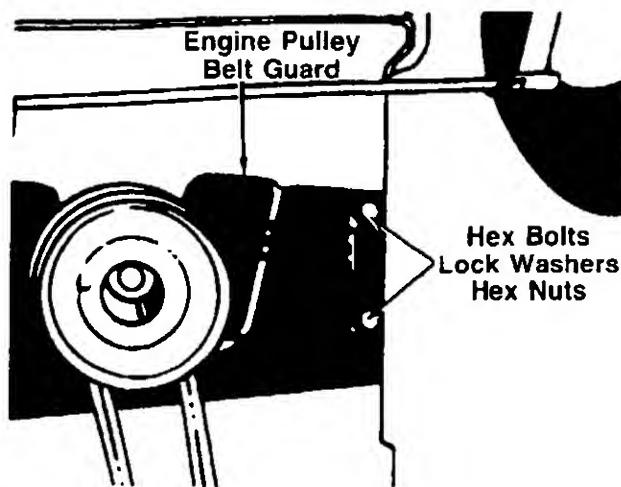

FIGURE 24.
- Remove the two bolts, lock washers and nuts on each side of the frame which hold the engine pulley belt guard to the frame. See figure 24.